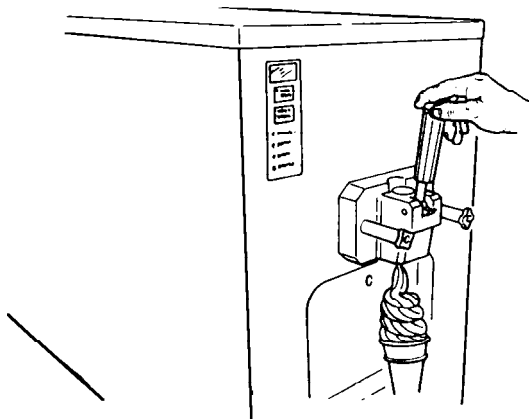

Figure 5
B) Dispensing Handle – (Refer to Figure 5)